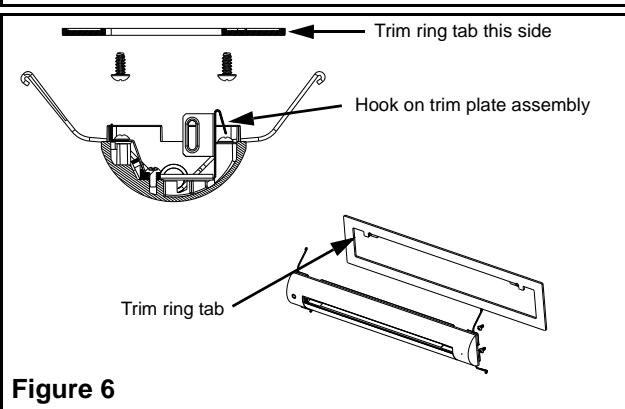

Figure 6
- 3. Recessed installation (figure 6). Attach the flat trim ring to the trim plate. Orient the trim ring and snap it with the two tabs behind the hooks of the side brackets.